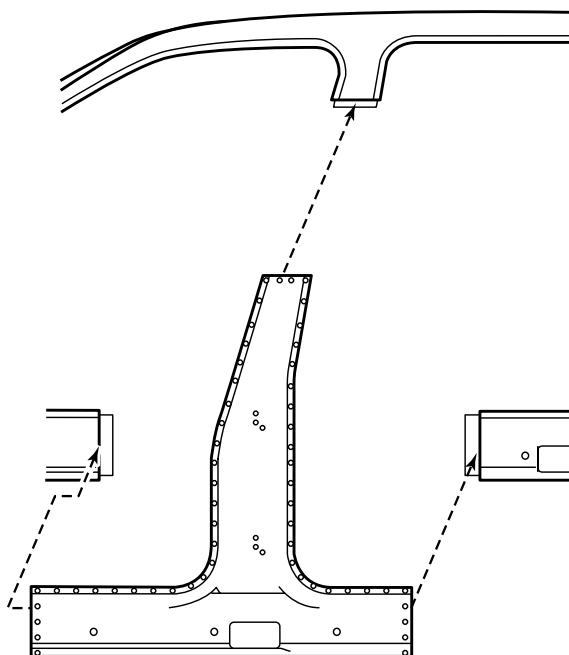

Fig. 1-7 — Outer Center Pillar – Installation
5. Align part and clamp in place. Check fit (Fig. 1-7).